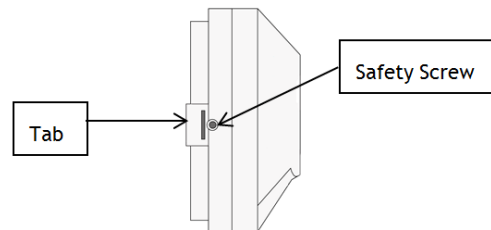

Figure 13: EcoSource Side View
- Step 4 Remove the safety screw from the left side of the thermostat using the hex wrench. See Figure 13.
- Step 44 Once the thermostat has been snapped onto the back plate, use a hex wrench to insert the safety screw in the location shown in Figure 13 on page 15.